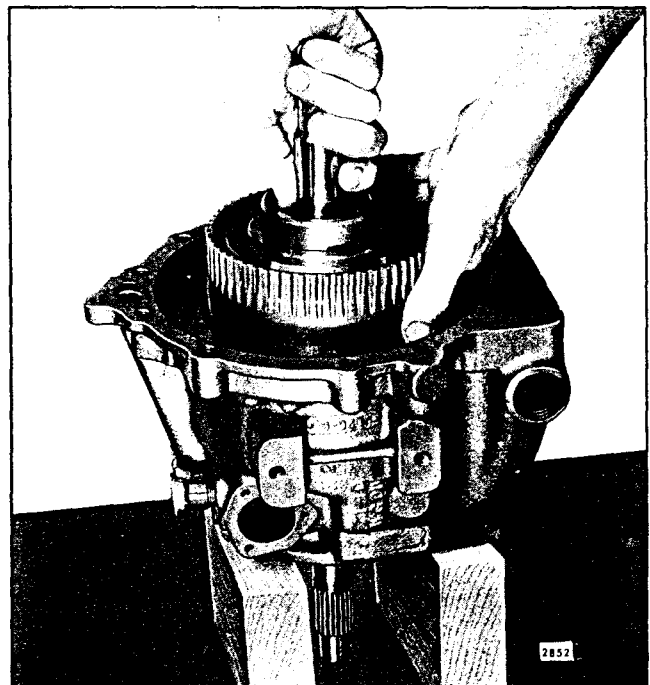

Fig. 24 - Removing Drive Gear Input Shaft, Forward Clutch and Ring Gear Assembly from Reverse Gear Housing
13. Lift the drive gear input shaft, forward clutch and ring gear as an assembly straight out of the reverse gear housing as shown in Fig. 24.